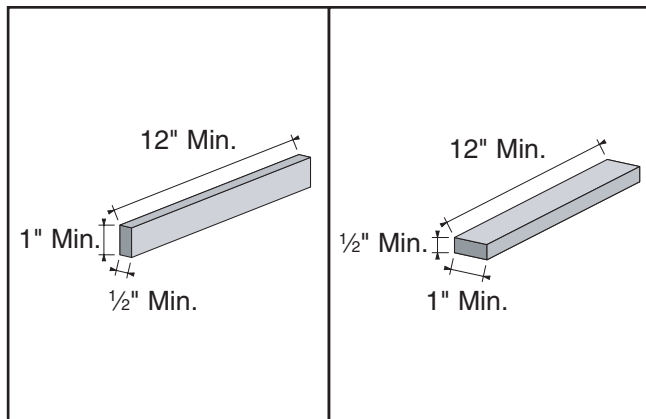

Figure 30. Minimum dimensions for edge jointing and surface planing (jointer).
- Make sure your workpiece exceeds the minimum dimension requirements (Figures 30 & 31) before edge jointing or surface planing, or it may break or kick back during the operation!